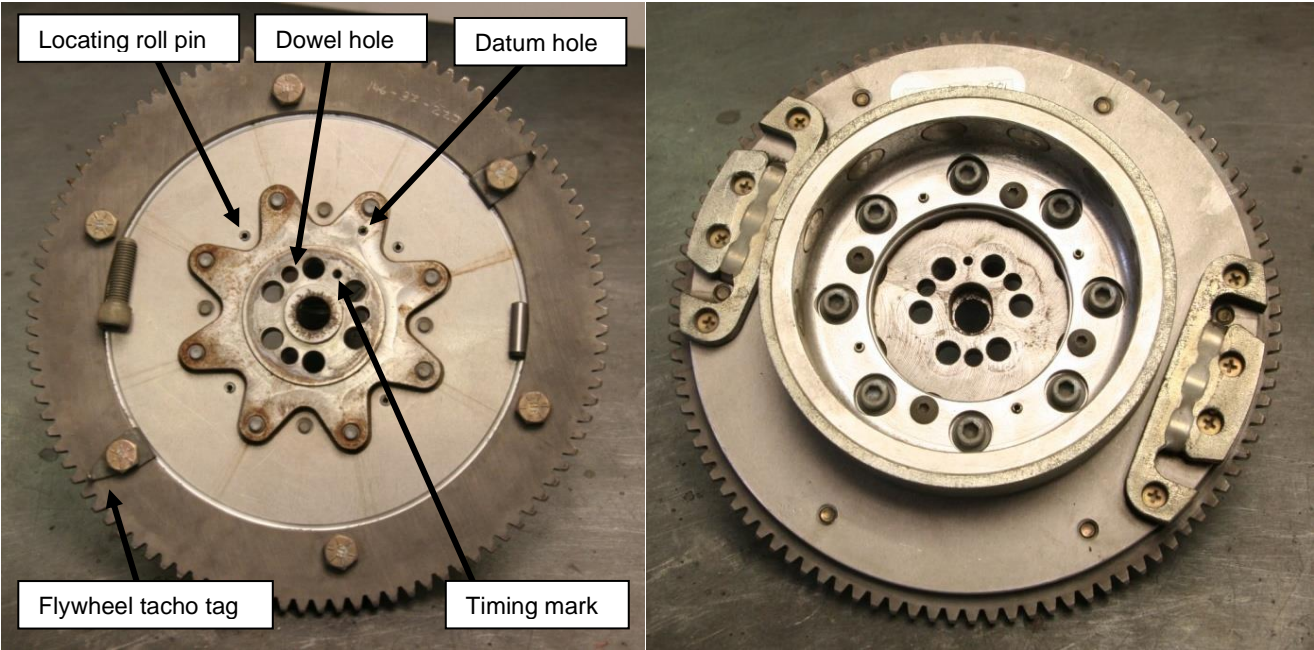

Figure 150 – Flywheel Assembly
- Dome-head screws are used in the alternator magnet housing (Figure 150, right). This provides clearance from the stator – if normal socket head screws are used here alternator damage will result.
- Solid Pole Plates (shown Figure 150) are fitted with 1/2" 10-32 countersunk screws.